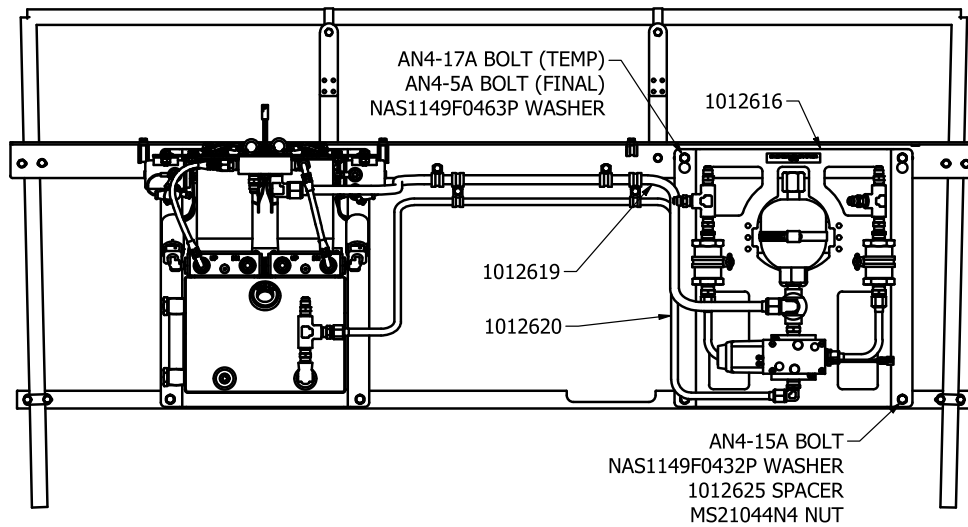

FIGURE 11
- i. Hand tight AN4-17A bolts (2) into the nut plates located on upper fuselage mount (1012618) for the directional valve location. These bolts allow the directional valve assembly to hang on the mounts through the key holes in the directional valve mounting plate. Once the directional valve assembly (1012616) is hanging on the AN4-17A bolts, install spacers (1012625) between the directional valve assembly and the fuselage steering support angle (10A12357-086) and mounting hardware on the bottom of the directional valve assembly, as shown in Figure 11.